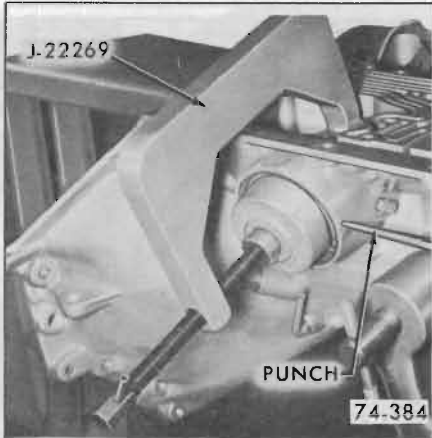

Figure 74-304
4. Compress low servo cover with J-22269 and install retaining snap ring. See Figure 74-304.